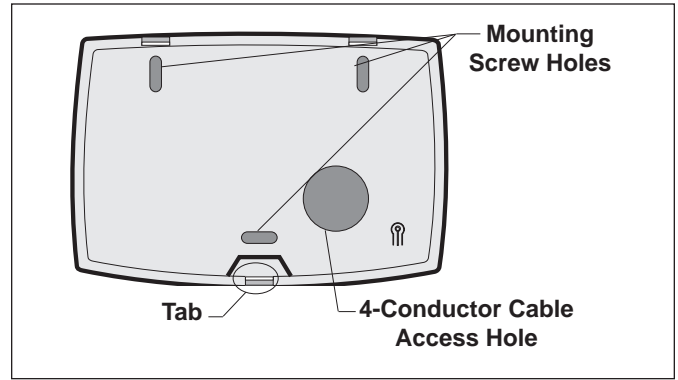

Figure 20. All Button Control Panel - Back View
- Open the Indoor Control Panel Assembly by pressing in on the tab located on the lower end of the back of the control panel (see Figure 20). Place the back of the control panel against the wall. Level the back of the control panel and mark the three (3) mounting screw holes and the cable access hole.